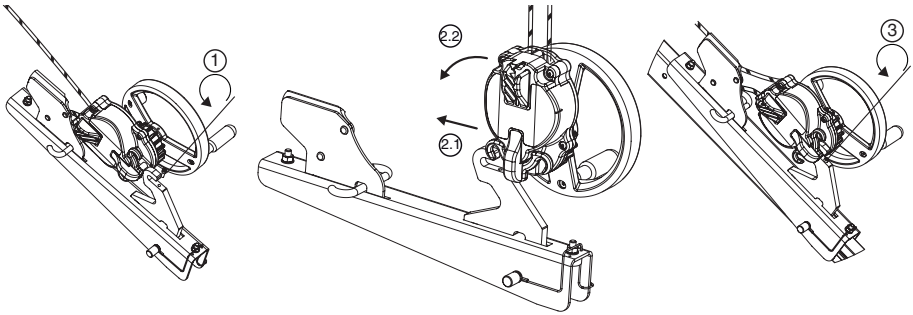

Fig. 8
6.3.4. derope™ descender UP R (Figs. 8, 9 and 10)
The derope™ UP R descender must be secured to the leg of the Tractel® tracpode as shown in Fig.8. Any other mounting position on any other point of the Tractel® tracpode is strictly prohibited.
1. Unscrew the screw securing the hook by which the bracket is fastened to the derope™ UP R descender (Fig. 8,1).
2. Install the derope™ UP R descender on the fastening hook (Fig. 8, 2.1 – 2.2).
3. Screw in the locking screw to prevent the unit from separating from its bracket (Fig.8, 3) and check that it is properly positioned and tightened.